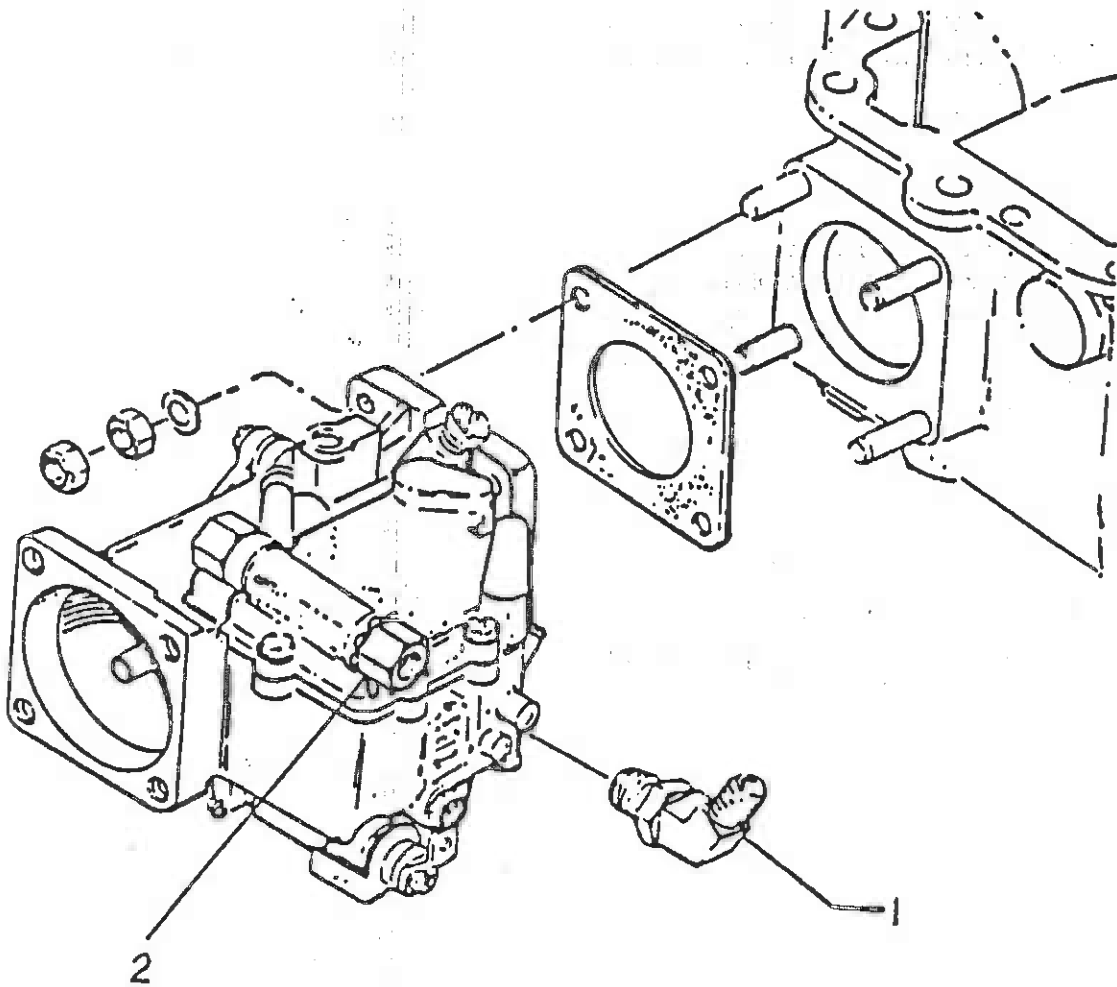

FIGURE 1
3. Remove the fuel inlet fitting (figure 1) and remove the fuel strainer